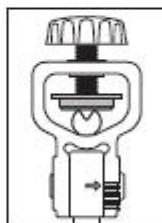

Fig 1
1. Mount the tool in the tool holder with the required length of blade protruding to allow enough clearance between the jig and stone when in use. The protrusion varies depending on the tool being sharpened and a good rule of thumb is at least 50 mm (2") is sufficient for many tools. See Fig 1.